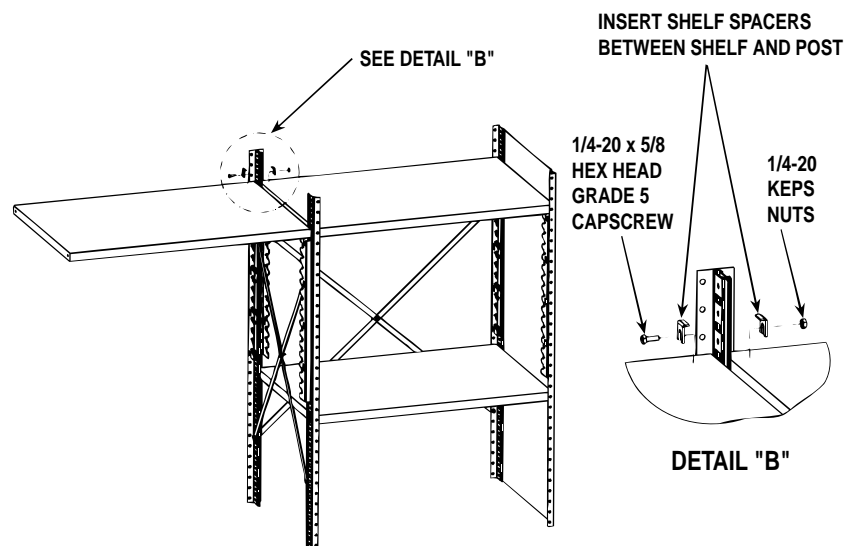

FIGURE 3.1
- Install the hex head screw from the inside of one shelf, through the post(s) and through the second shelf. (See Figure 3.1)
- Insert two (2) shelf spacers, one between each post and shelf. Tighten the Keps nuts.